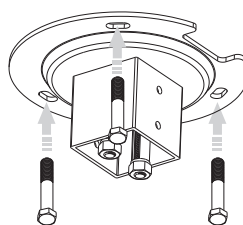
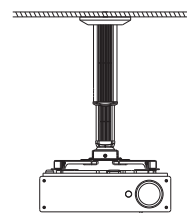
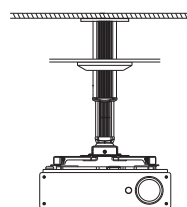

figure 1
figure 2
figure 3
- 1 Install the fixation on the ceiling using screws (Accessory no. 1) as figure 1. GPCM-F can be installed to the concrete roof with ceiling or without ceiling, as figure 2 and figure 3.